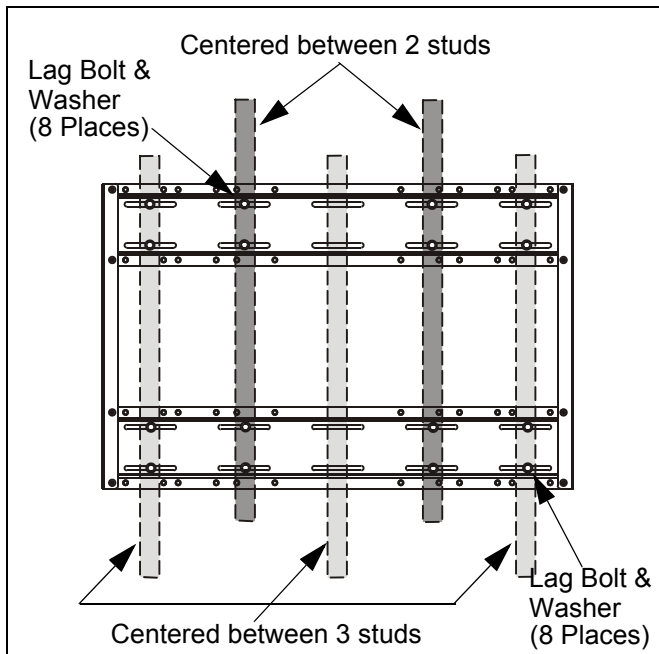

Figure 8: 16" On Center Stud Installation
- 16" on center studs: The mount is approximately centered between two or three studs as shown (See Figure 8).